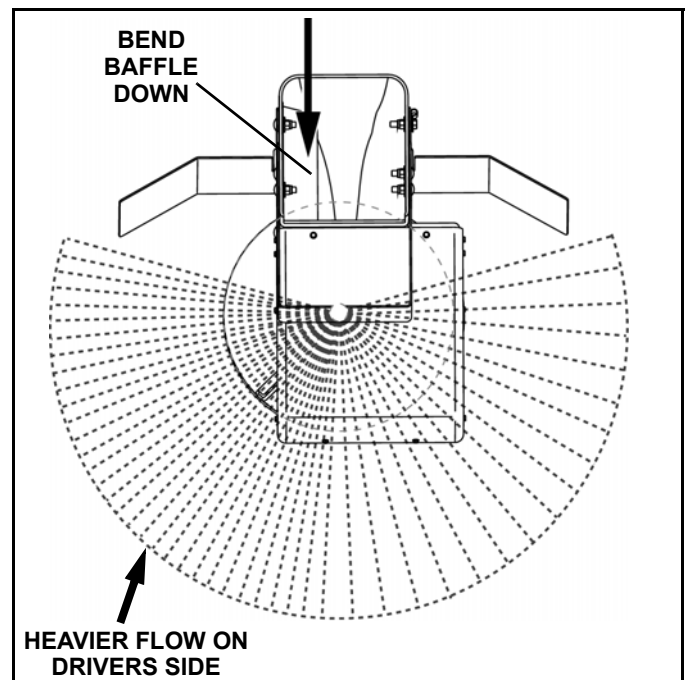

Figure 2-3
- To adjust the flow of the material to the drivers side (DS) of the vehicle, manually bend the internal baffle in the "DOWN" position (See Figure 2-3).